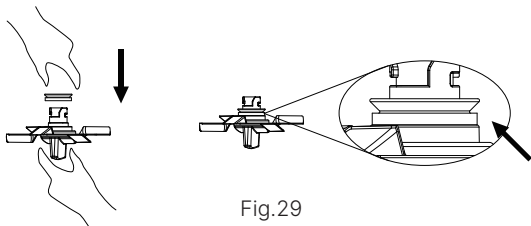

Fig.29
2. Then, hold the handle of the chopper blade rack (see Fig.29) and place the blade rack into the chopper blade slot until you hear a “click”. Before cooking, ensure the chopper lid is securely locked (see Fig.30).